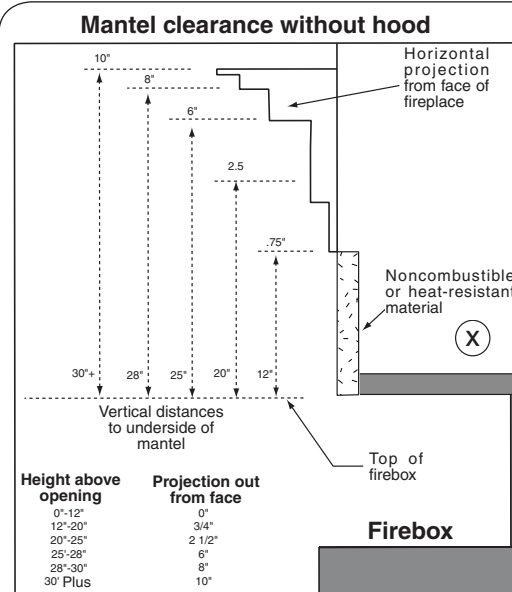
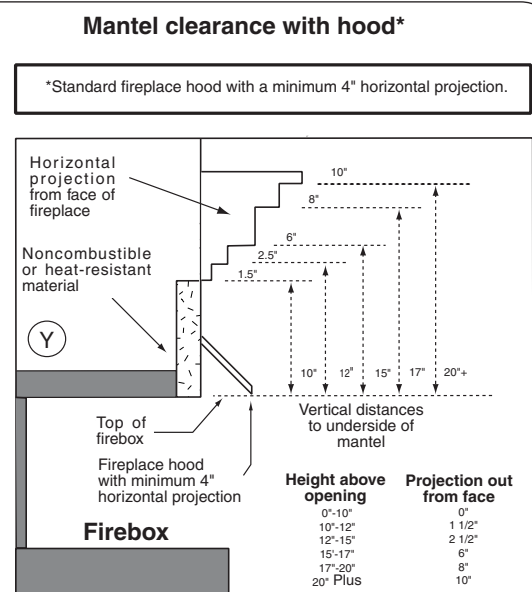

Fig. 10-2
Fig. 10-3
Mantel: (see Figs. 10-2, 10-3, and paragraph A below)
To install the unvented gas log set, there must **ALWAYS** be noncombustible or heat-resistant material immediately above the fireplace opening. Heat-resistant materials (i.e., marble or slate) must be at least $\frac{5}{8}$ " thick. Sheet metal should not be installed onto combustible materials. If you **DO NOT** install a fireplace hood, there **MUST** be at least **12"** of noncombustible or heat-resistant material immediately above the fireplace opening (see X in Fig. 10-2 below). If you **DO** install a fireplace hood, there **MUST** be at least **10"** of noncombustible or heat-resistant material immediately above the fireplace opening (see Y in Fig. 10-3 below). If there is a wooden mantel, shelf, or other combustible projection above the fireplace, follow the information in Fig. 10-2 or Fig. 10-3 below.
1. If a fireplace hood is not installed - 2.5" (see Fig. 10-2).
2. If a fireplace hood is installed - 10" (see Fig. 10-3).